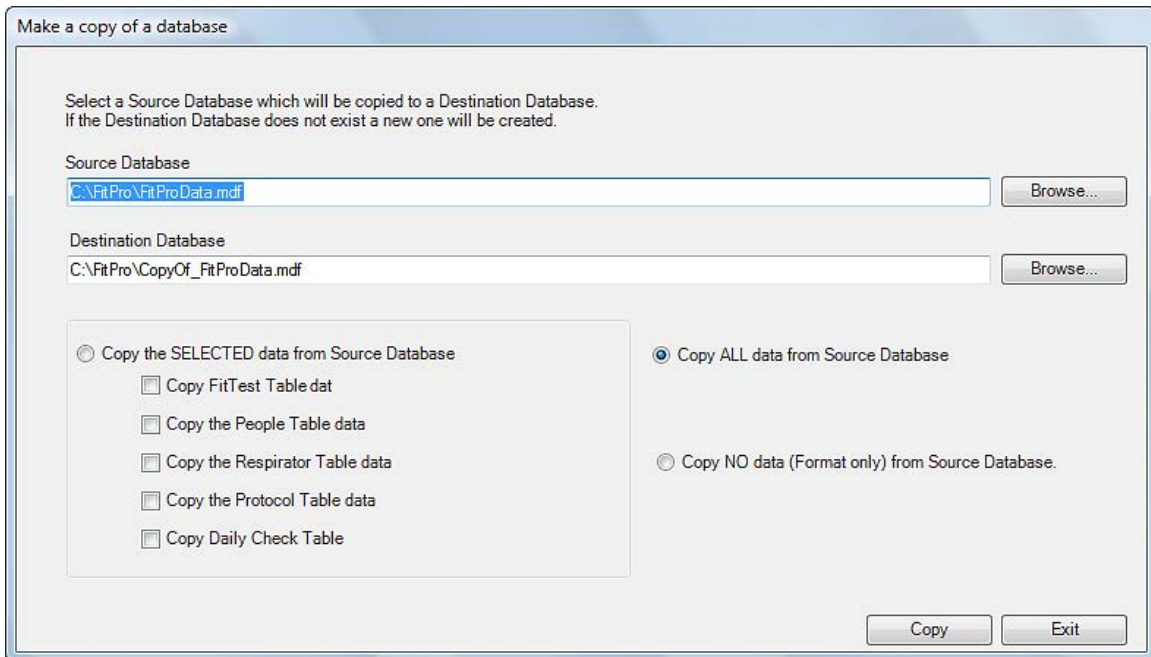

Figure 25. Make a Copy of a Database Dialog
1. Select **Database | Copy**. The Make a Copy of a Database dialog (Figure 25) appears.